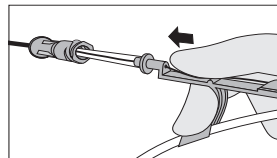

Figure 3
- Using thumb, retract guidewire tip. Place tip of Arrow Advancer – with guidewire retracted – into introducer needle (refer to Figure 3).